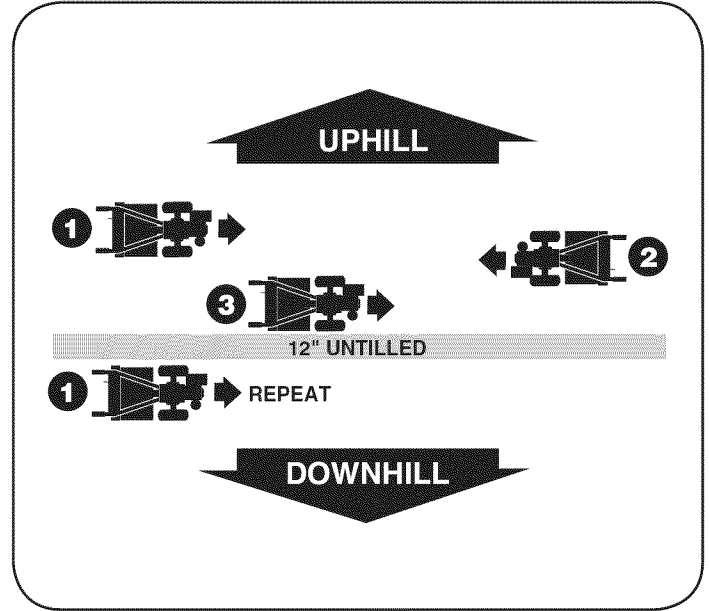

Figure 22
1. To create a terrace, start at the top of the slope and work down. Go back and forth across the first row. See Figure 22.